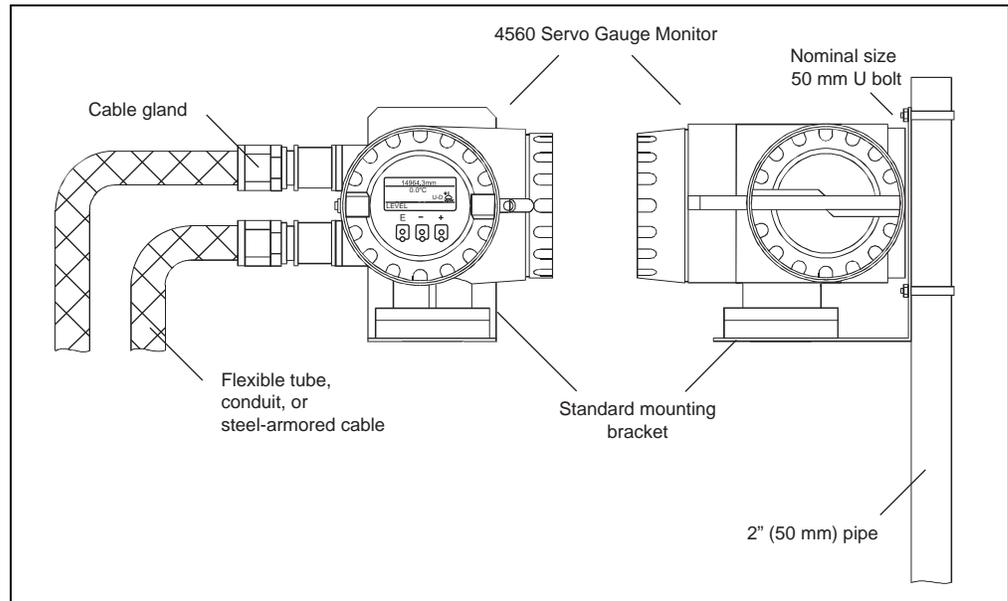

Figure 3-2: Mounting on a 2" (50 mm) pipe
- Mounting on a 2" (50mm) pipe (Figure 3-2)